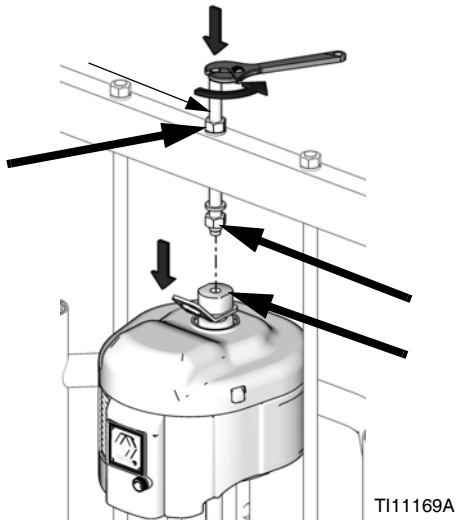

FIG. 19: 200 Liter (55 Gallon) Platen
- a. *For 200 liter (55 gallon) platen:* Loosen nut below crossbar. Use wrench to hold lift ring adapter in place and loosen threaded rod above crossbar with another wrench. See FIG. 19.